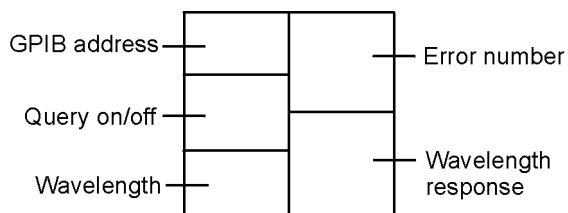

Figure 9: Implementing the Wavelength Driver
1. Insert wav.vi and wire it as shown in Figure 9. The inputs are displayed on the left side; the outputs are displayed on the right side.